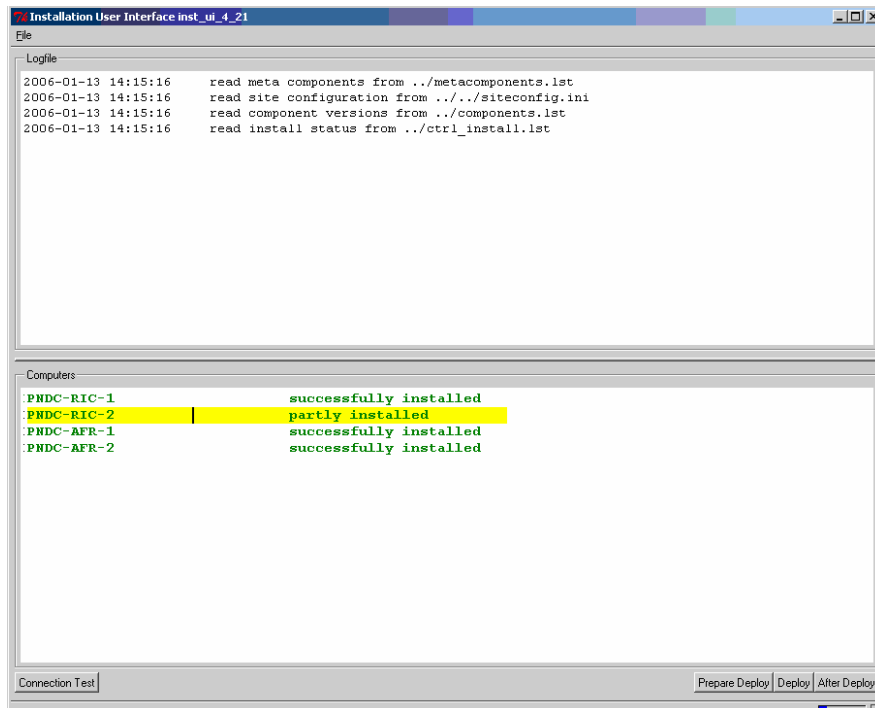

Figure 1-232. Install UI showing RIC-2 selected
1. In the 'Computers' view, highlight the line with the computer to be reinstalled (Figure 1-232).